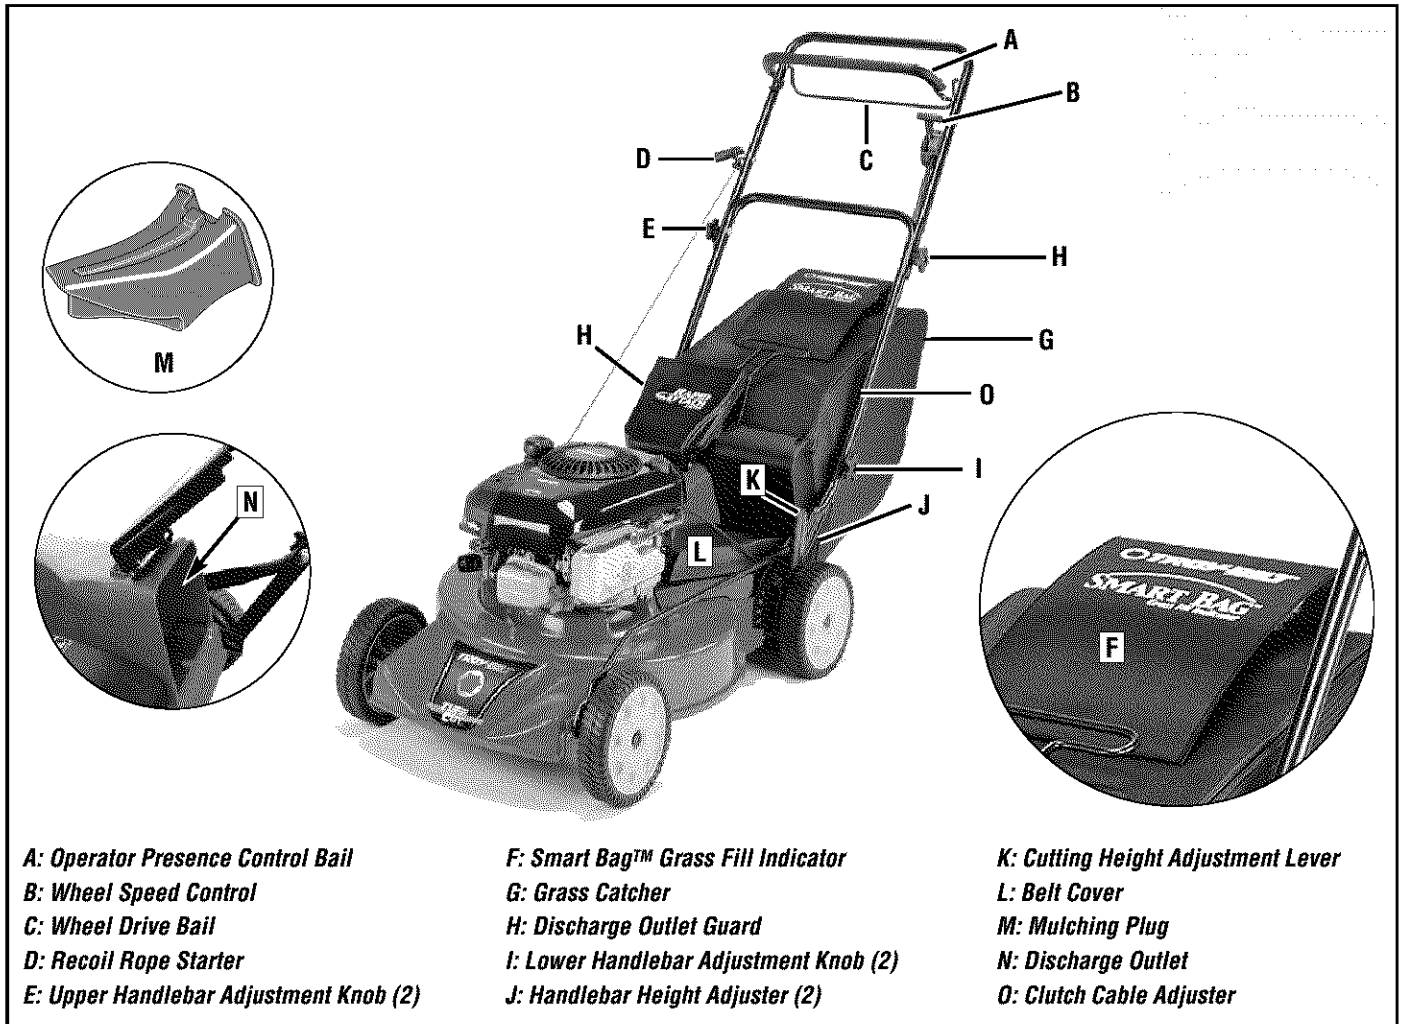

Figure 3-1
The mower is supplied with two easily changed attachments—the Grass Catcher (I, Figure 3-1) and the Mulching Plug (M)— which provide two different mowing modes. See *Setting Up Mowing Modes* in Section 4 for detailed information on how to install and use the attachments.
Use the Grass Catcher (G, Figure 3-1) to collect clippings for disposal. The bag can hold over two bushels of clippings.
The Grass Catcher is equipped with the Troy-Bilt® Smart Bag™ feature (F, Figure 3-1). The Smart Bag feature is a grass fill indicator that provides a visual alert when the bag is full. See *Bagging Mode* in Section 4 for detailed information.
Use the Mulching Plug (M, Figure 3-1) to mulch lawn clippings. See *Mulching Mode* in Section 4.
The Operator Presence Control Bail (A, Figure 3-1) must be pulled back against the handlebar and held there while starting the engine and operating the unit. Releasing the bail will shut off the engine and stop the mower blade. The engine will not restart unless the bail is pulled back against the handlebar.
The Wheel Drive Bail (C, Figure 3-1) engages the powered rear wheels when it is pulled up against the handlebar, and disengages the wheels when released. See *Mowing and Turning the Mower* in Section 4 for more information.
The Wheel Speed Control (B, Figure 3-1) provides three different wheel speeds. Selections are:
This control (K, Figure 3-1) provides eight cutting heights, enabling you to choose the most appropriate height for the lawn condition. Cutting heights range from 3/4-inches to 4-1/4-inches. See *Preparation for Mowing* in Section 4 for more information.
The recoil rope start (D, Figure 3-1) is used to pull-start the engine. See the Engine Owner's Manual for starting information specific to your engine. Also see *Starting the Engine* in Section 4.
The mower provides three handlebar height settings (J, Figure 3-1). See *Step 5: Adjust Handlebar Height* in Section 2.